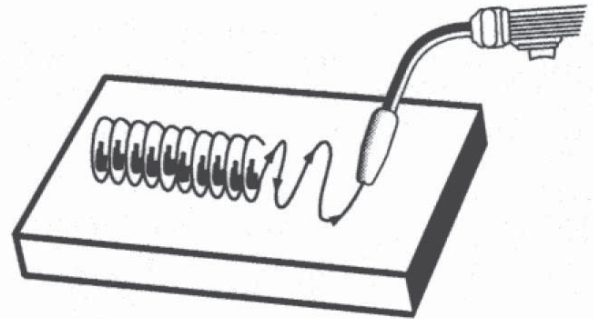

Figure 14. Weave Bead
2. The WEAVE BEAD (Figure 14) is used when you want to deposit metal over a wider space than would be possible with a stringer bead. It is made by weaving from side to side while moving with the gun. It is best to hesitate momentarily at each side before weaving back the other way.